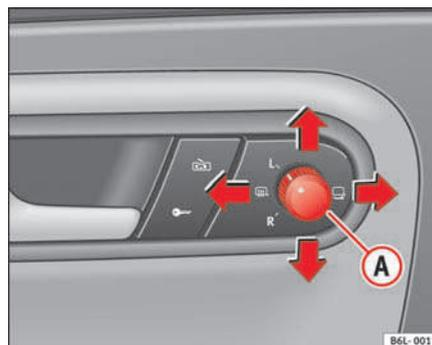

Fig. 68 Exterior mirror control
1. Turn knob ⇒ fig. 68 to position **L (left exterior mirror)**.
- Turn the control to the demisting position ⇒ fig. 68. ▶
- Turn the control ⇒ page 100, fig. 68 to position  to fold in the exterior mirrors. You should always fold in the exterior mirrors if you are driving through an automatic car wash. This will help prevent damage.